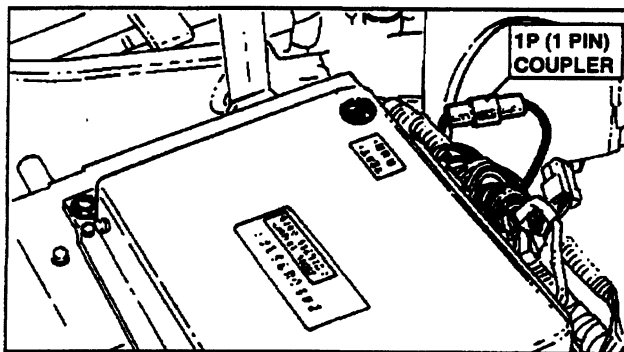

FIGURE 6.13A
8. Locate the controller 1P (1 Pin) coupler and disconnect. Connect the KOBELCO Special Adjustment Harness Assembly to the 1P coupler. See Figure 6.13A.